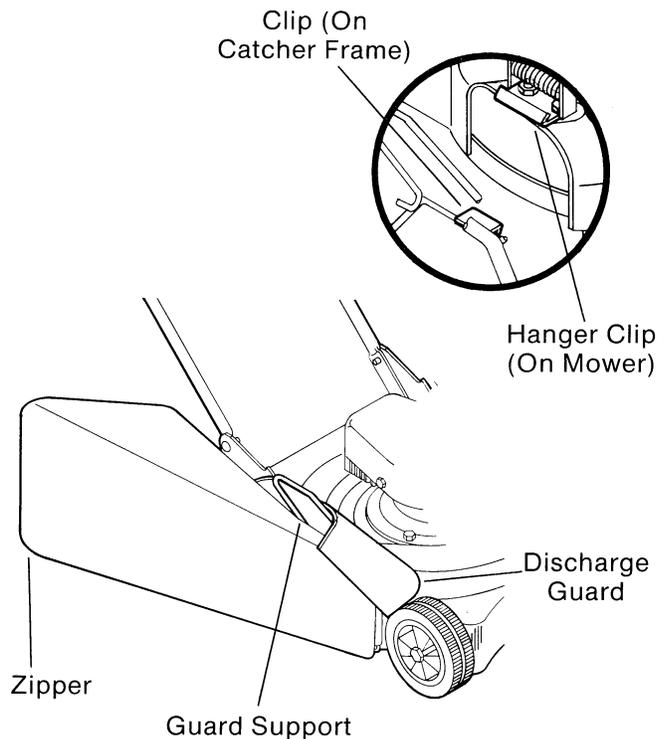

FIG. 11
A. Raise discharge guard (Fig. 11) and hook clip on grass catcher frame onto the hanger clip.